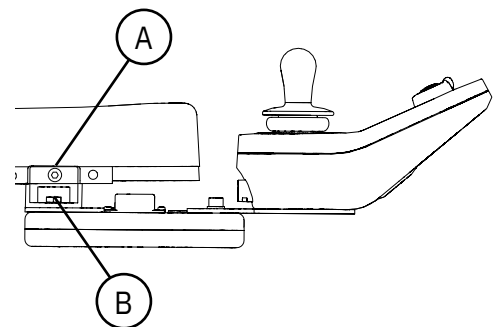

Figure 5.2. ParaLoc.
Control units can be mounted using two types of attachment, a control arm and ParaLoc (optional). The control arm is articulated at two points and allows movement of the control unit towards the inside and outside of the armrest. The joints can either be locked in a fixed position or be mobile with an adjustable resistance. With ParaLoc, the control unit retains its direction when the control arm is rotated outwards or inwards. ParaLoc has a lock mode; this is normally placed straight ahead of the armrest. You can also adjust the lock mode by adjusting the magnetic arm, see Figure 5.2. The depth of both types of attachment are also adjustable and the attachment can be mounted on the right or left side. ParaLoc with height and tilt regulation can be adjusted to several different dimensions without the need for any further tools.
ParaLoc is adjustable in depth (A) and the position of the magnetic arm's lock mode (B) is adjustable, see Figure 5.2. For depth adjustment, see Control arm.
The control arm is adjustable in depth and the position of the magnetic arm's lock mode is adjustable as per the above, see Figure 5.2. For depth adjustment, see Control arm.